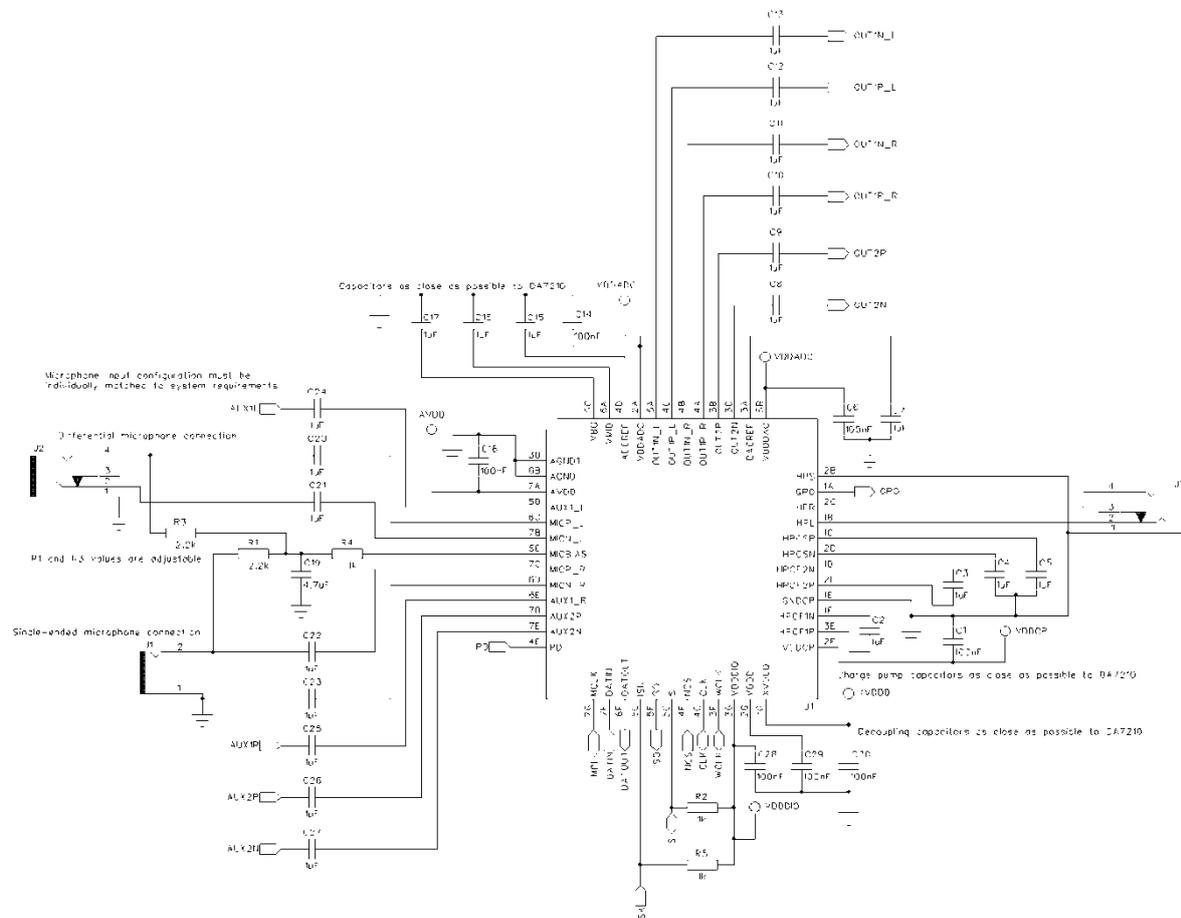

Figure 49: DA7210 49-Pin CSP Component Recommendations
To ensure datasheet performance is maintained it is recommended that the following minimum component criteria are met. Figure 49 shows recommended components and input/output configurations.
- Headphone output and microphone input connectors shown in Figure 49 are of the 3.5 mm RCA/phono type, but any other suitable connector is acceptable.
- If two microphones are supplied by this pin, then separate RC circuits are implemented for each microphone to provide isolation between inputs, as shown in Figure 49.